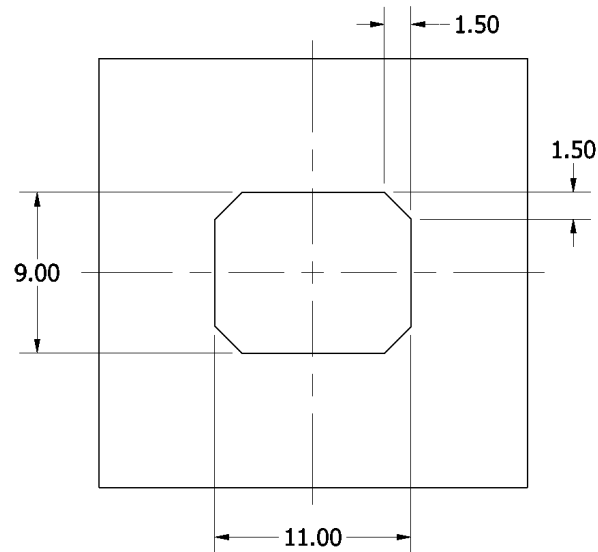

Figure 2 - Ceiling Tile Cutout.
Step 2 – Remove the ceiling tile and cut a 9" X 11" opening with 1.5" x 1.5" chamfers on all four corners with the cutout centered on both the X and Y axis (Figure 2). For larger projects, Oberon has a router template available to help decrease the time required to cut out ceiling tiles (Oberon P/N 104X-ROUTER-TEMPLATE). Contact your Oberon representative for details.